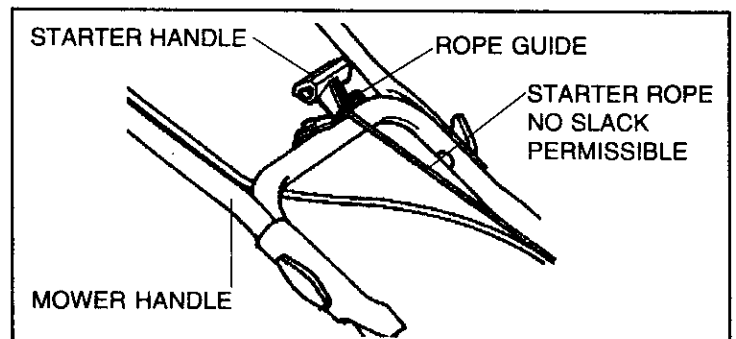

Figure 4
- C. Slide rope stop onto starter rope and feed starter rope through rope guide on mower handle (see Figure 4).
- E. With starter handle resting on rope guide (see Figure 4), check starter rope for slack. If there is any slack, pull more starter rope through starter handle and relocate left hand knot to eliminate slack.